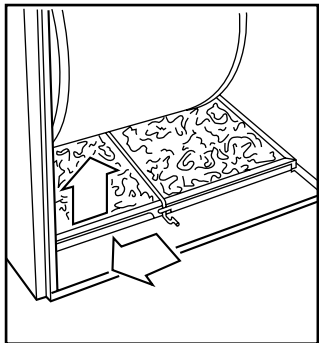

Fig. 26 - Sliding Filter Retainer Sideways
- (1.) Slide filter retainer sideways until it is free of latch. (See Fig. 26.)